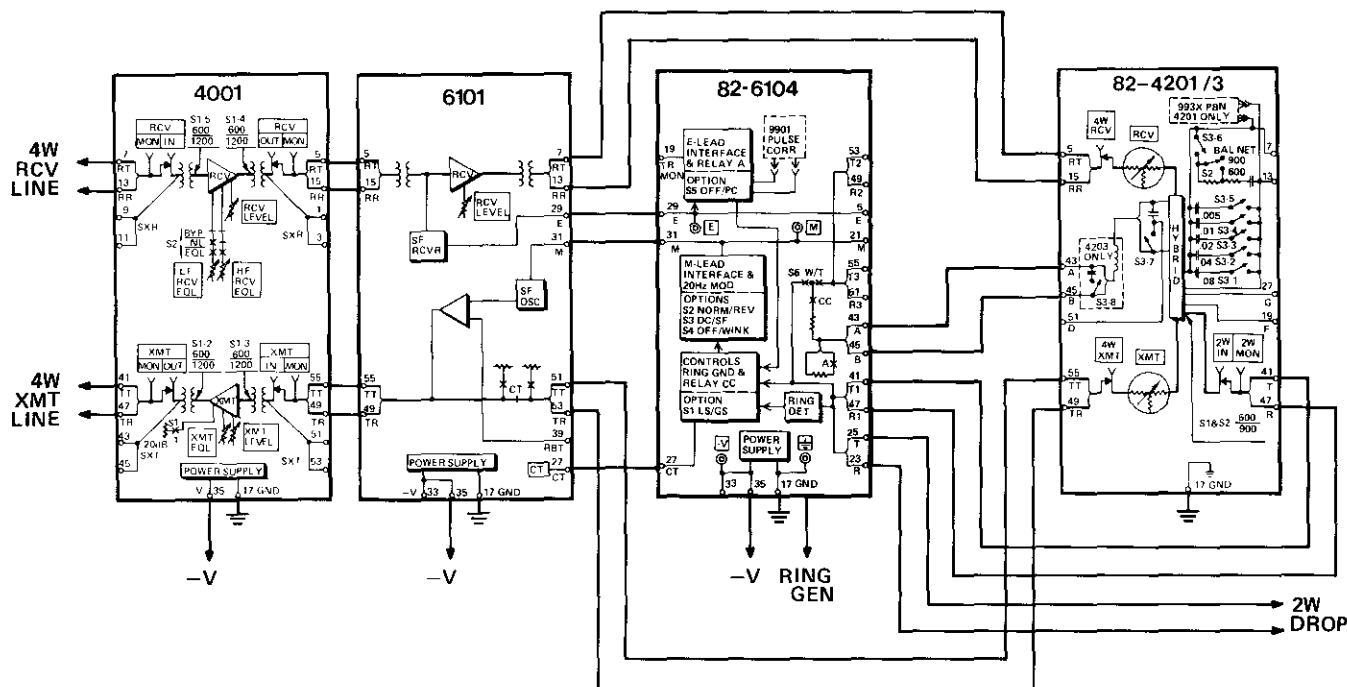

figure 4. Connections required for application in a Tellabs 260 or 261 System
3.05 One of the most common applications of the 6104 involves its use in an SF signaling and terminating system with a 4001 Line Amp on the facility interface and a 4201 or 4203 Term Set interfacing the station. Figure 4 shows the connections required in this application. Note that if the 6104 is used in combination with these modules in a Tellabs 260 or 261 Signaling and Terminating System, all intermodule connections are factory wired and external connections are simplified by the use of terminal strips or blocks. Refer to the 260 or 261 System Practice for further information.